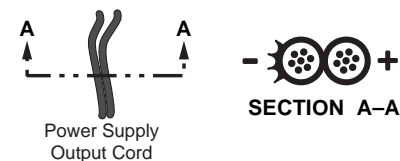

Figure 2-8 — Power connector wiring
- Connect the control panel module to a device with auxiliary 12VDC outputs, such as an Extron MSV0502-3 or MSV0804-3 matrix switcher. Figure 2-8 shows how to wire the power connector.
- Connect the included 12VDC external power supply to the 2-pole female direct insertion captive screw connector. Figure 2-8 shows how to wire the power connector.